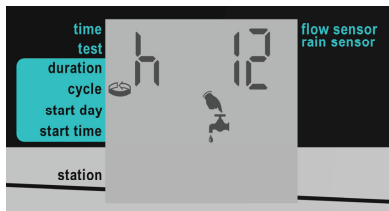

Figure 17: Twelve Hour Cycle Setting Example
1. Press **⏏** until the Cycle screen appears (Figure 17).